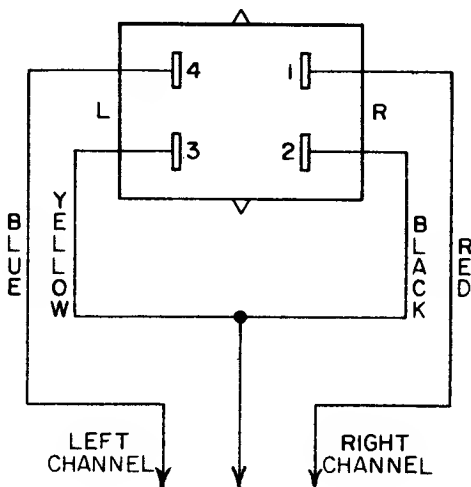

Figure 1 - Cartridge Wiring Diagram
1. Observe the sequence of wires, as shown in Figure 1.